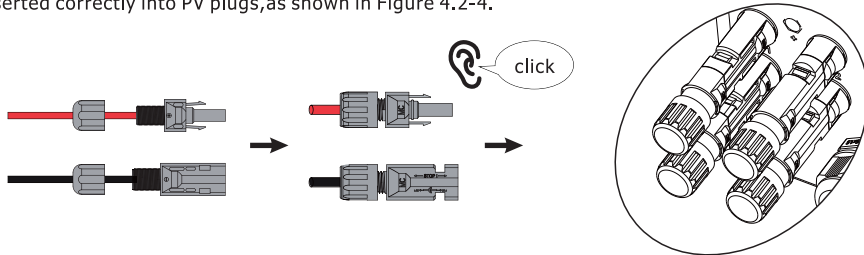

Figure 4.2-4 The PV plug is connected to the inverter
Step 4. Screw the cap on and plug it onto inverter side. There will be a click sound if connectors are inserted correctly into PV plugs, as shown in Figure 4.2-4.